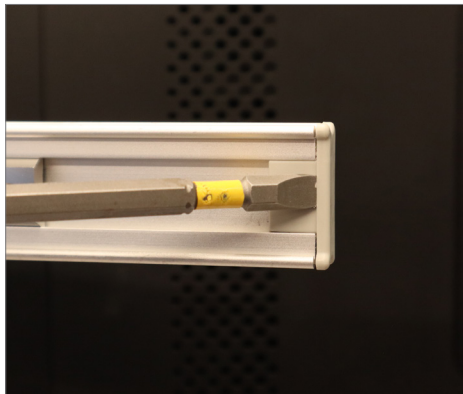
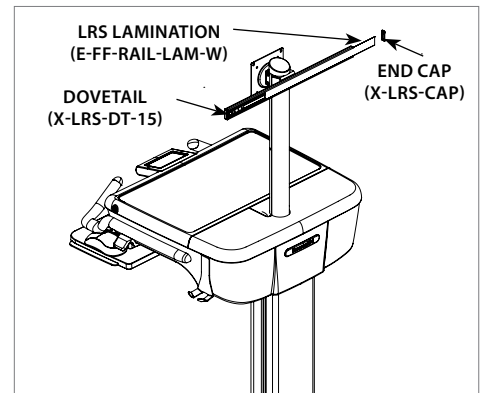

Figure 22
Figure 23
- Remove the **END CAP (X-LRS-CAP)** from the **PERCH RAIL (HMA-PR-A-18)** using a flat head screwdriver (**Figure 22**) then slide out the **LRS LAMINATION (E-FF-RAIL-LAM-W)** (**Figure 23**).